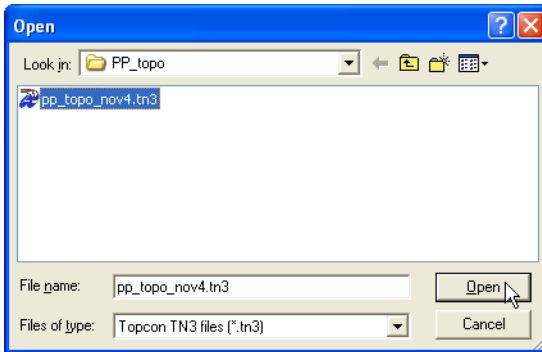

Figure 10-7. Select Surface to Compare
- On the *Open* dialog box, navigate to the folder in which the file resides, select the *Files of type* from the drop down list (either TN3 files, PL3 files, or RD3 files), select the desired file and click **OK** (Figure 10-7).